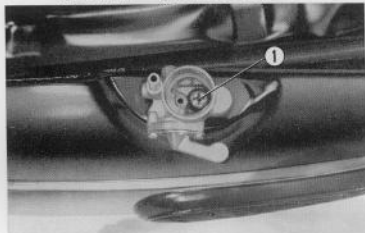

Fig. 4.44 Removing fuel cock
5. The fuel cock can be removed by first unscrewing the fuel strainer cap, removing the filter screw and then the cross point fuel cock mounting screw. ① (Fig. 4.44)